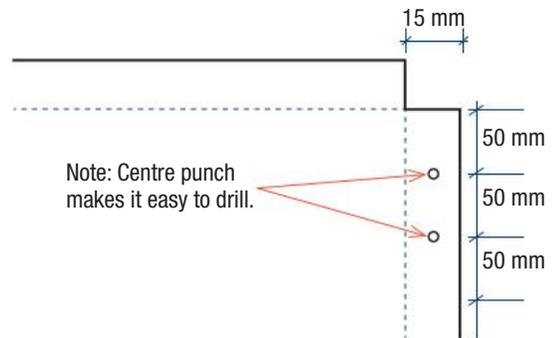

Figure 12.24 Measure position of rivet joint.
- 4 Still on the same side of the sheet metal, measure every 50 millimetres along the joint at the centre of the 15 millimetres joint. Centre punch these to make a hole (see example Figure 12.24)